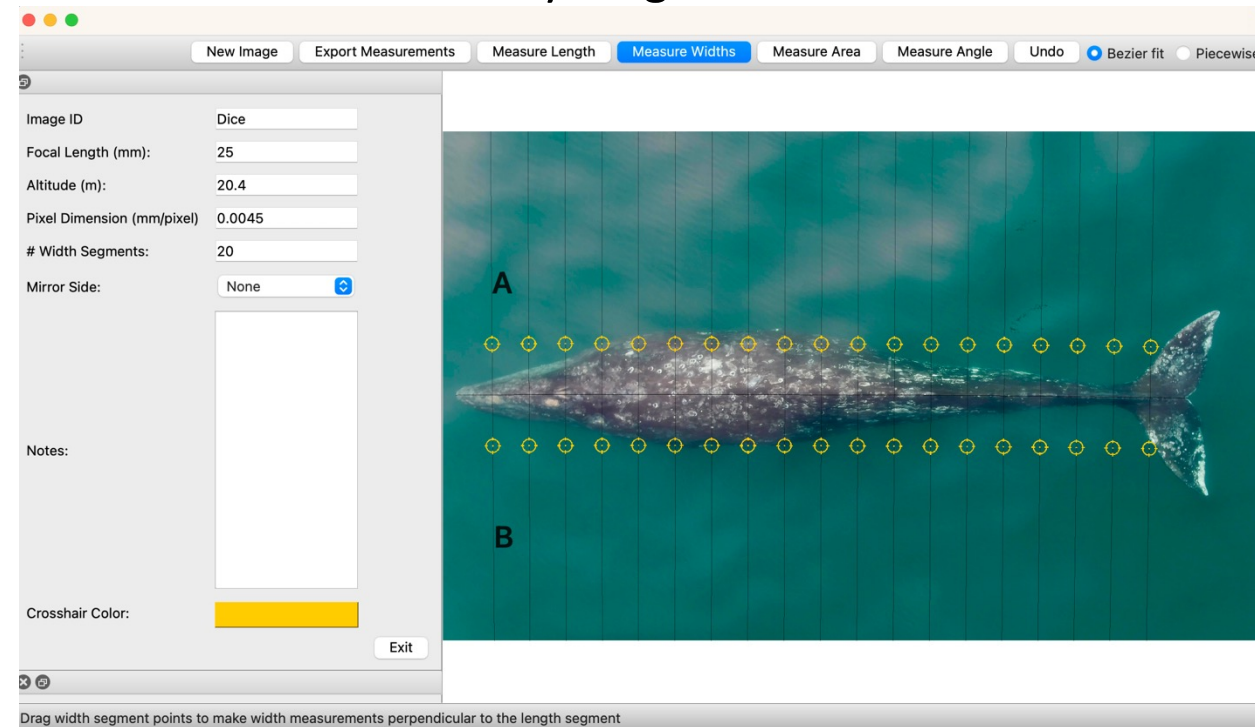

Figure 9. Width segments automatically generated with slidable crosshairs (yellow). Shown here, 20 width segments, or 5% increments of total length.
- Next, select “Measure Widths”, which will automatically divide the length measurement by the designated number of segments and place slidable crosshairs on each perpendicular width line (Figure 9).